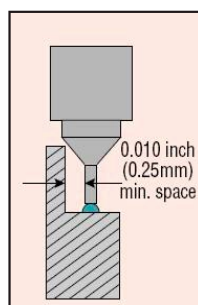

Figure 7-7 Sidewall interference with dispensing needle
**Avoid Z-axis obstructions.** Sidewall proximity to the dispensing needle. Often, a form-in-place EMI gasket is applied along a “ledge” adjacent to a higher sidewall. The dimensional tolerances on ledge and sidewall locations are particularly critical, to avoid sidewall interference with the moving needle a minimum of 0.010 in clearance is required (Figure 7-7).